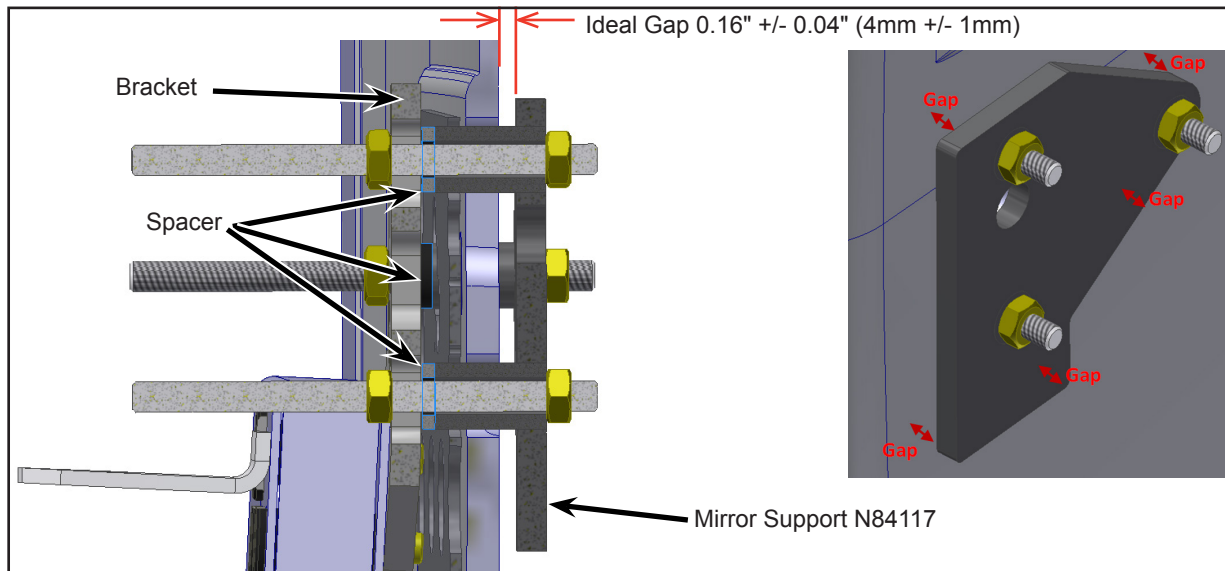

Figure 21 - Ideal Gap Measurement Between Fiberglass and Mirror Support
- 1.25. Insert one of the following: Washers N16645 (2 mm) or Bushings N83351 (4 mm) at contact zone to achieve an ideal gap of 4mm (+/-1mm), typically in the three locations shown (see Figure 21).